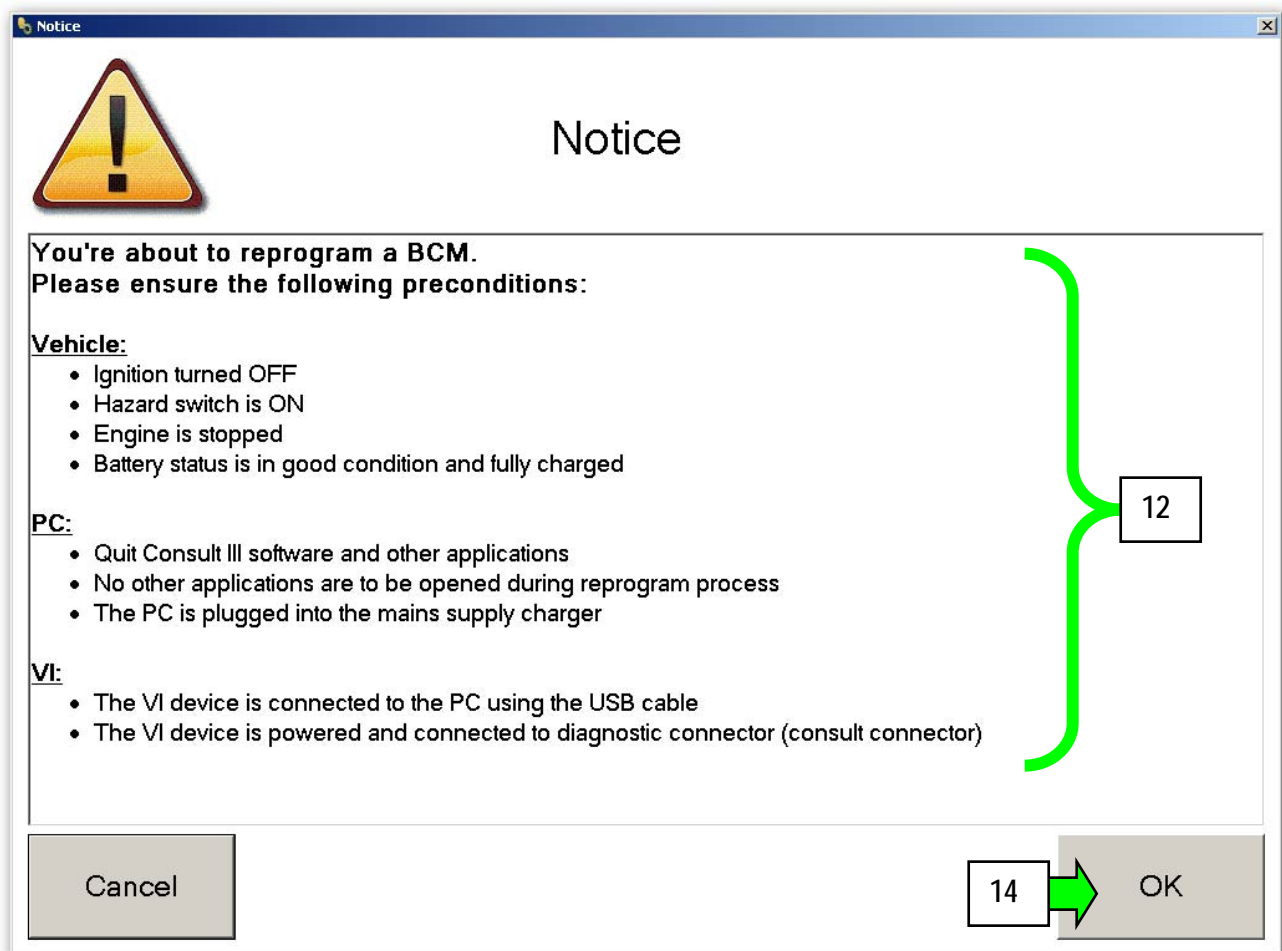

Figure 2
12. Make sure each of the preconditions listed on the screen have been met (see Figure 2).